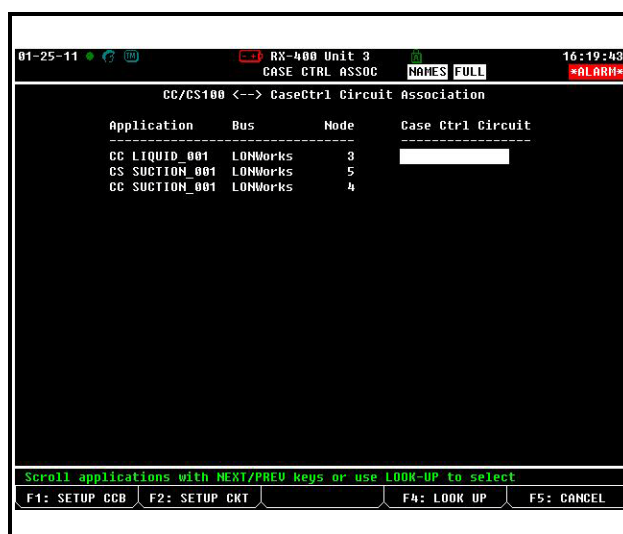

Figure 11-7 - CC/CS100 Circuit Association Screen (RX-400)
4. Press  for Case Control Associations. The Case Control Association screen should look like **Figure 11-7**: